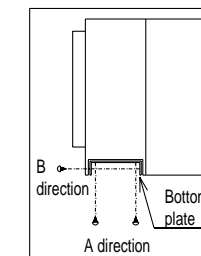

Fig.4
- It is necessary if using filter box PAC-KE63·80·140TB-F (using filter : high-efficiency filter), change the position (up/down) of the retainer plate. Refer to [● Procedure for mounting the filter from the side (1), (2)].
- (1) Remove the bottom plate screws (refer to drawing below) on the filter box. (Fig. 4)
- フィルターボックス底板のネジ(下図参照)を外します。(図4)